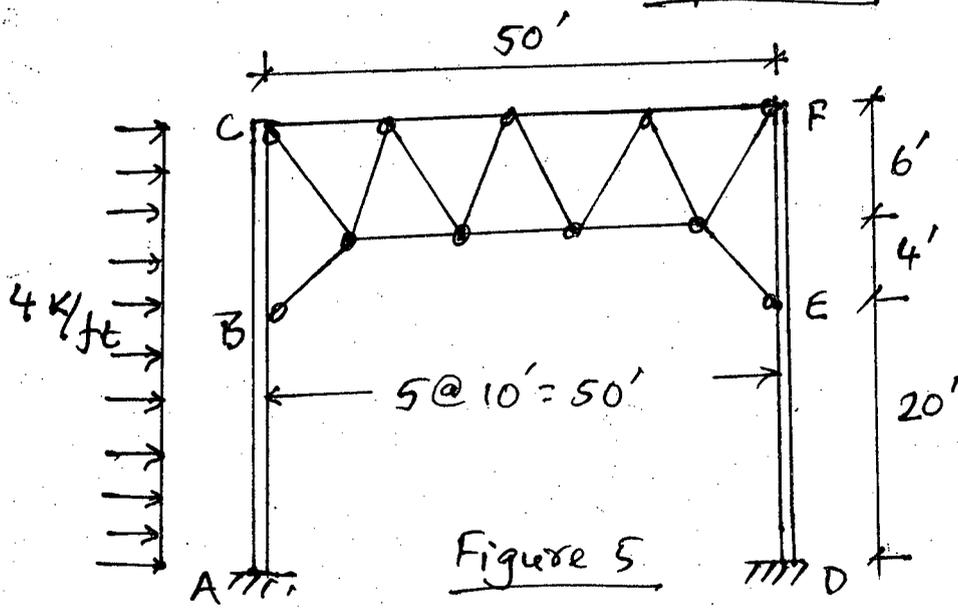

Figure 5
- (b) Draw the axial force, shear force and bending moment diagrams of the column ABC of the millbent as shown in Figure 5. (16 $\frac{2}{3}$)